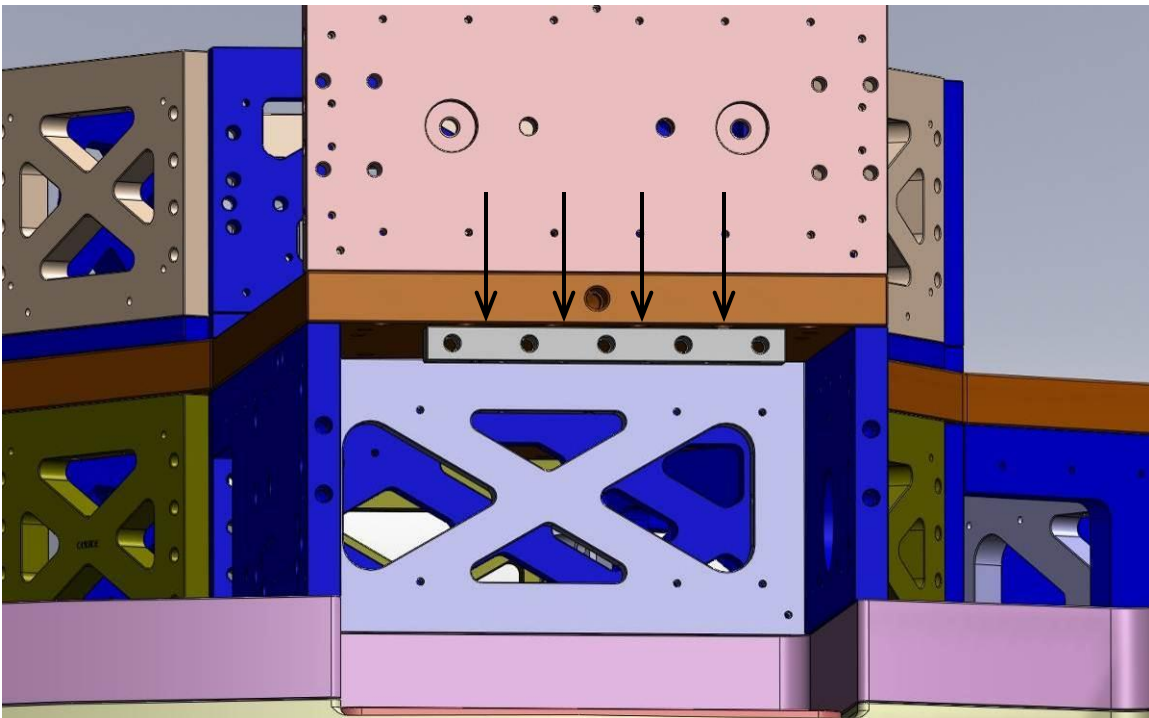
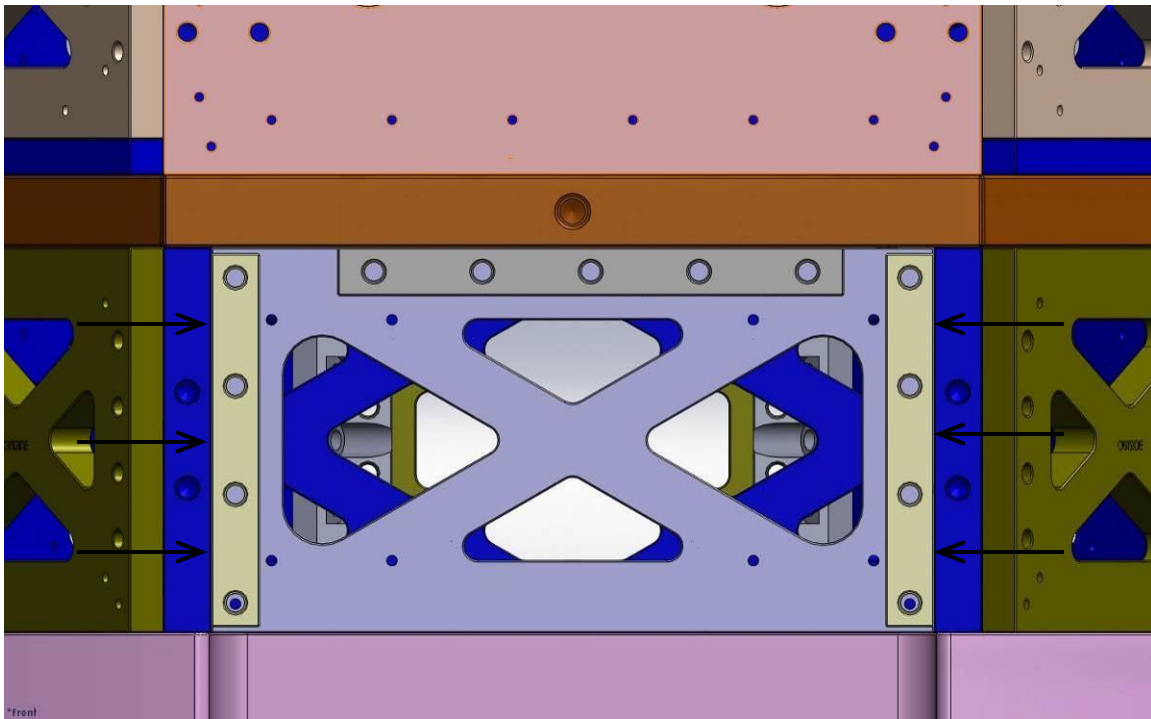
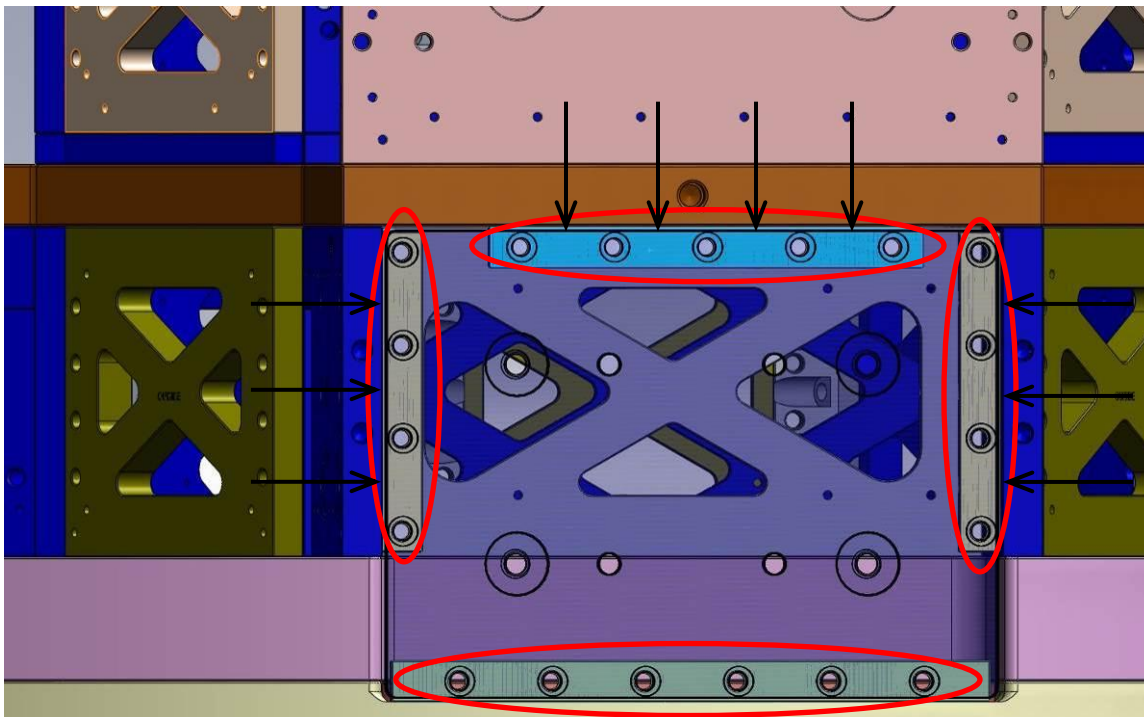

Figure 66: D0901536 Bracket, Lower Outer Wall, Top Installation on D0901520 Stage 2 Mid Plate
Figure 70: (2) D0901537 Brackets, Lower Outer Wall, Bottom Installation on D0901521 & D0901522 Radial Walls
Figure 73 D0901535, D0901536, D0901537 Brackets are visible behind the D0901532 door set as transparent
(4) 3/8 Vented Washers - UCC-WFV-38
- Locate D0901536 Bracket, Lower Outer Wall, Top on D0901520 Stage 2 Mid Plate with the (2) pins already installed in D091520 as shown on Figure 66. Make sure pins seat properly into mating hole and slot.
- Insert all the screws from the top, through D091520 Stage 2 Mid Plate into D0901536 Bracket, Lower Outer Wall, Top as shown by the black arrows on Figure 66.
- Repeat this step for the (2) other D0901536 Bracket, Lower Outer Wall, Top.
(6) 3/8 Vented Washers - UCC-WFV-38
- Locate (2) D0901535 Bracket, Lower Outer Wall, Side on D0901521 & D0901522 Radial Walls as shown on Figure 70.
- Insert all the screws from the outside in, through D0901521 & D0901522 Radial Walls into D0901537 as shown by the black arrows on Figure 70.
- Repeat this step for the (4) other D0901537 Bracket, Lower Outer Wall, Side.
(8) 3/8" x 1" SHCS – MSC 75464628 – into D0901537 Brackets (Side)
(19) 3/8 Vented Washers - UCC-WFV-38
- Snug and **torque to 329 in.lbs (27 ft.lbs)** all the screws from the top, that attach D0901536 Bracket, Lower Outer Wall, Top onto D0901520 Stage 2 Mid Plate as shown by the black arrows on Figure 66& Figure 73.
- Snug and **torque to 329 in.lbs (27 ft.lbs)** all the screws from the outside in, that attach (2) D0901537 Brackets, Lower Outer Wall, Side onto D0901521 & D0901522 Radial Walls as shown by the black arrows on Figure 70 & Figure 73.
- Once all these Brackets are torqued to spec, snug all the screws attaching D1000052 Lower Outer Wall Assembly to these Brackets (circled in red on Figure 73) and **torque them to 329 in.lbs (27 ft.lbs)**.
- Repeat this step for the (2) other D1000052 Lower Outer Wall Assemblies.